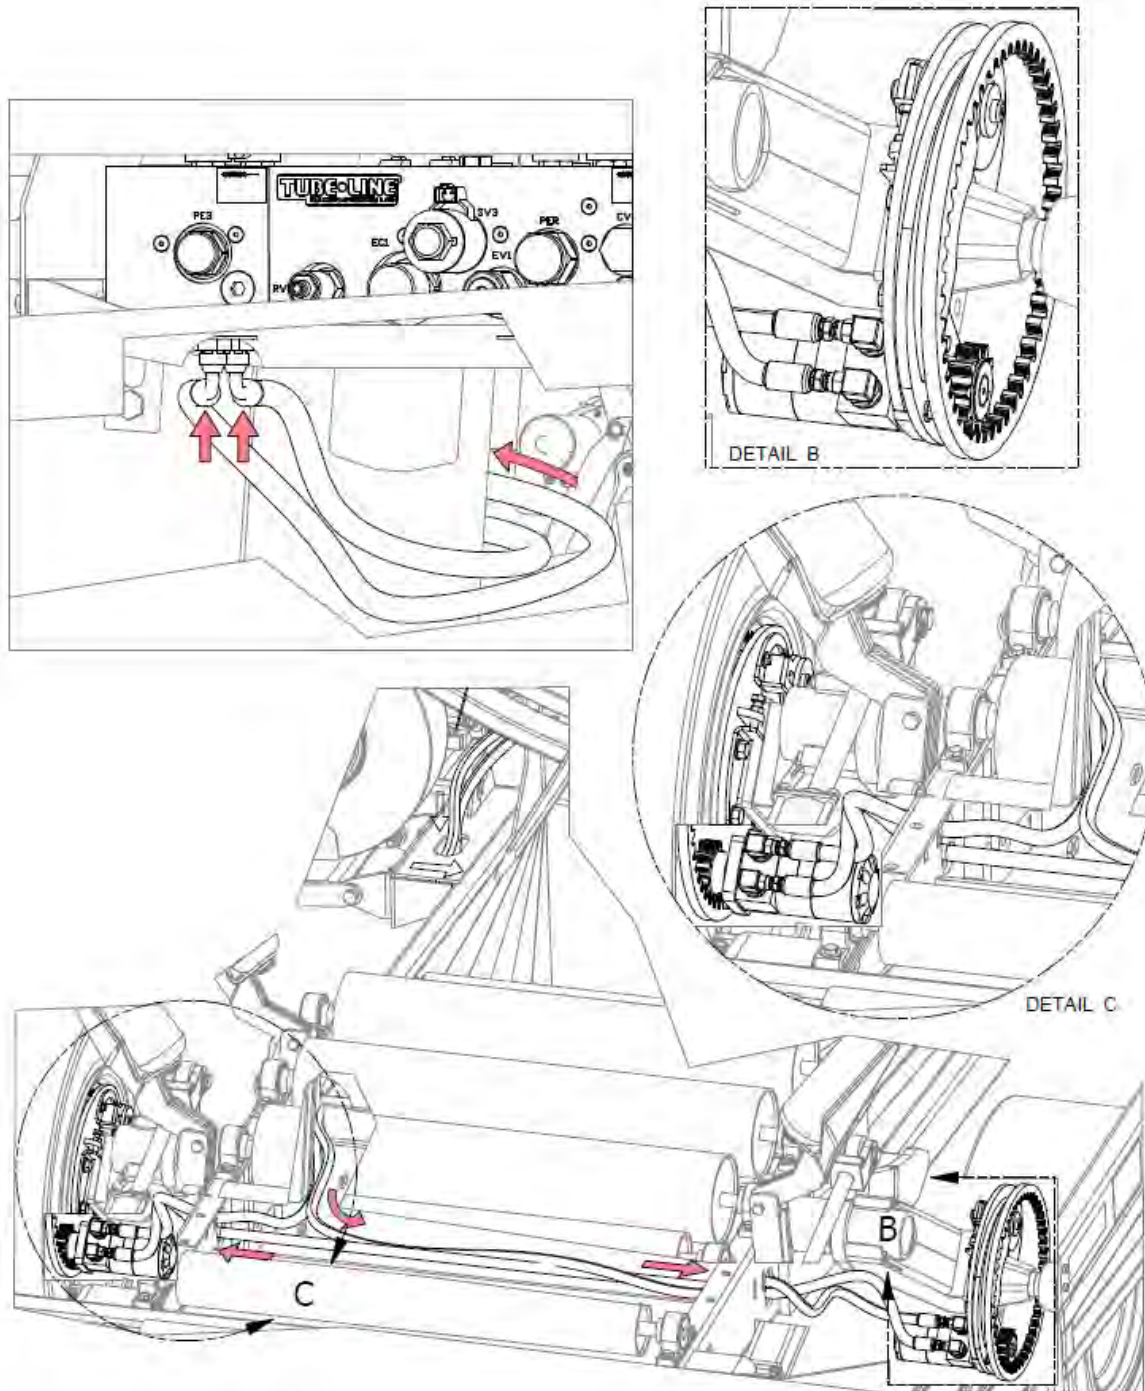

Fig.2.
2. Remove existing brake pad from parking brake bracket. Reuse bolts to fasten supplied hydraulic motor as shown in Fig.2.
5. Route hoses from main manifold valve ports **DR** and **DF** through hoop wheel mount and side frame tube to middle of roller bed, then through the left roller bed mount plate to the hydraulic motor. Make sure 90° hose ends are towards main manifold valve. See arrows in Fig.2.